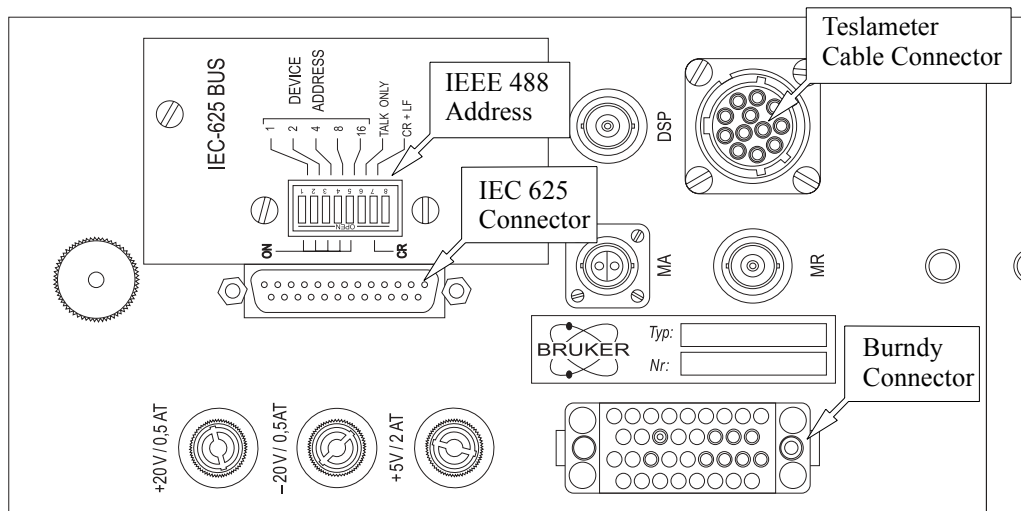

Figure 12-24 Rear view of the teslameter unit.
4. **Connect the teslameter cable.** Use the connecting cable to connect the teslameter probe to the teslameter cable connector on the rear panel of the teslameter unit. (See Figure 12-24.)
5. **Connect the power supply cable.** Locate the teslameter Burndy cable from the power rack on the back of the console. Connect it to the Burndy connector on the rear panel of the teslameter unit. (See Figure 12-24.)
6. **Connect the IEC 625 cable.** There is an IEC 625 cable connected to the front of the GSI board of the acquisition server. Connect the other end to the IEC 625 connector on the back of the teslameter. (See Figure 12-24.)
7. **Check the IEEE 488 address.** The default IEEE 488 address is seven. The DIP switches for setting the address define a binary number. Therefore seven corresponds to switches 1, 2 and 3 on. Switches 6 and 7 should be on for proper communication. All other switches should be off. The switches are rocker switches and on corresponds to having the lower part pressed in. (See Figure 12-24.)